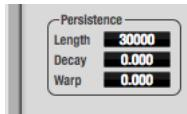

Figure 10-21: The Persistence controls.
The *Persistence* controls (Figure 10-21) affect the appearance of data from when it is first displayed until it disappears from the grid.
*Length* (Figure 10-21) sets the number of recent samples to show on the plot. For example, when *Length* is set to 10,000, the 10,000 most recent samples are shown.
*Decay* (Figure 10-21 on page 67) determines the brightness or hue of the minimum value. When *Decay* is zero, the oldest sample is black. When *Decay* is +1.000, the oldest sample is fully opaque (in Grayscale mode) or red (in Color mode).
*Warp* (Figure 10-21) determines the position of data points after they are first drawn. When *warp* is zero, data points remain in the same position. When *warp* is positive, they contract towards the origin (center of the grid). When *warp* is negative, they expand away from the origin. The further the *warp* value is from zero, the greater the effect.